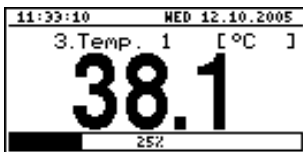

Fig. 6.7. "Single channel" mode
- "Single channel" mode (Fig. 6.7) enables the last measurement for one of the measurement channels to be viewed in the numeric and graphic form (bar).